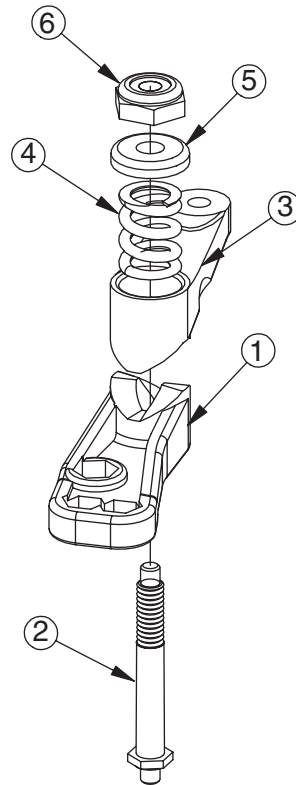

Figure A-1
- ❑ 1. Place the Servo Saver Bottom (1) over the Servo Saver Post (2) and slide the Servo Saver Bottom all the way against the hex at the opposite end. Be sure that the hex on the Servo Saver Post is inserted into the hex in the Servo Saver Bottom.
- ❑ 2. Slide the Servo Saver Top (3) down over the Servo Saver Post so that the 'V' area of the Servo Saver Top rests in the 'V' area of the Servo Saver Bottom. The arm on the Servo Saver Top and the arm on the Servo Saver Bottom should now point in opposite directions as shown in Figure A-1.
- ❑ 3. Slide the Servo Saver Spring (4) over the Servo Saver Post and push it into the recessed area of the Servo Saver Top. Install the Servo Saver Spring Cap (5) and thread the 6-40 Locknut (6) onto the end of the Servo Saver Post.